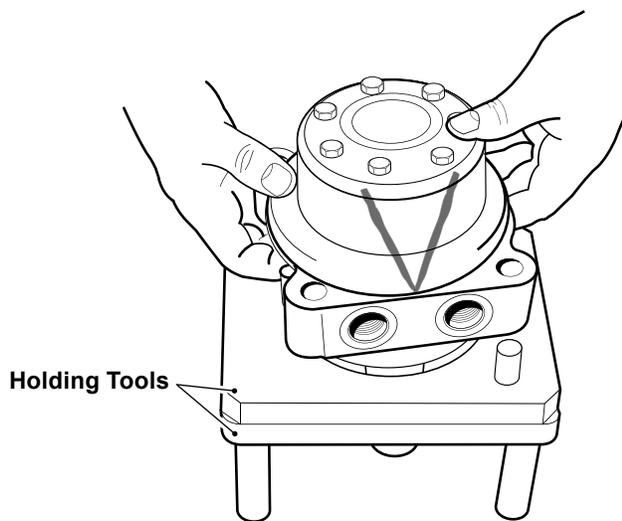

Figure 6, Service position
5. Place the HGM-C motor into a holding tool. See figure 6.